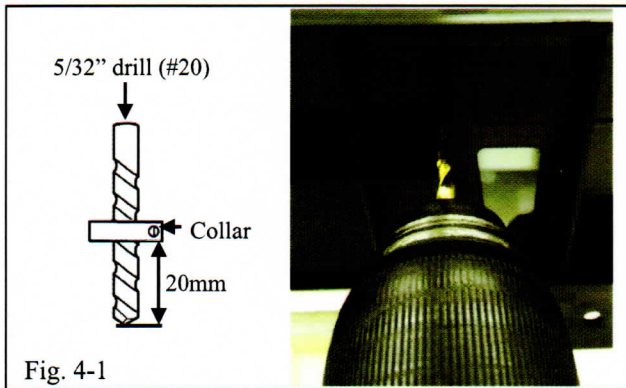

Fig. 4-1
- (b) Set the drill depth to 20mm for the 5/32" drill (Fig. 4-1).